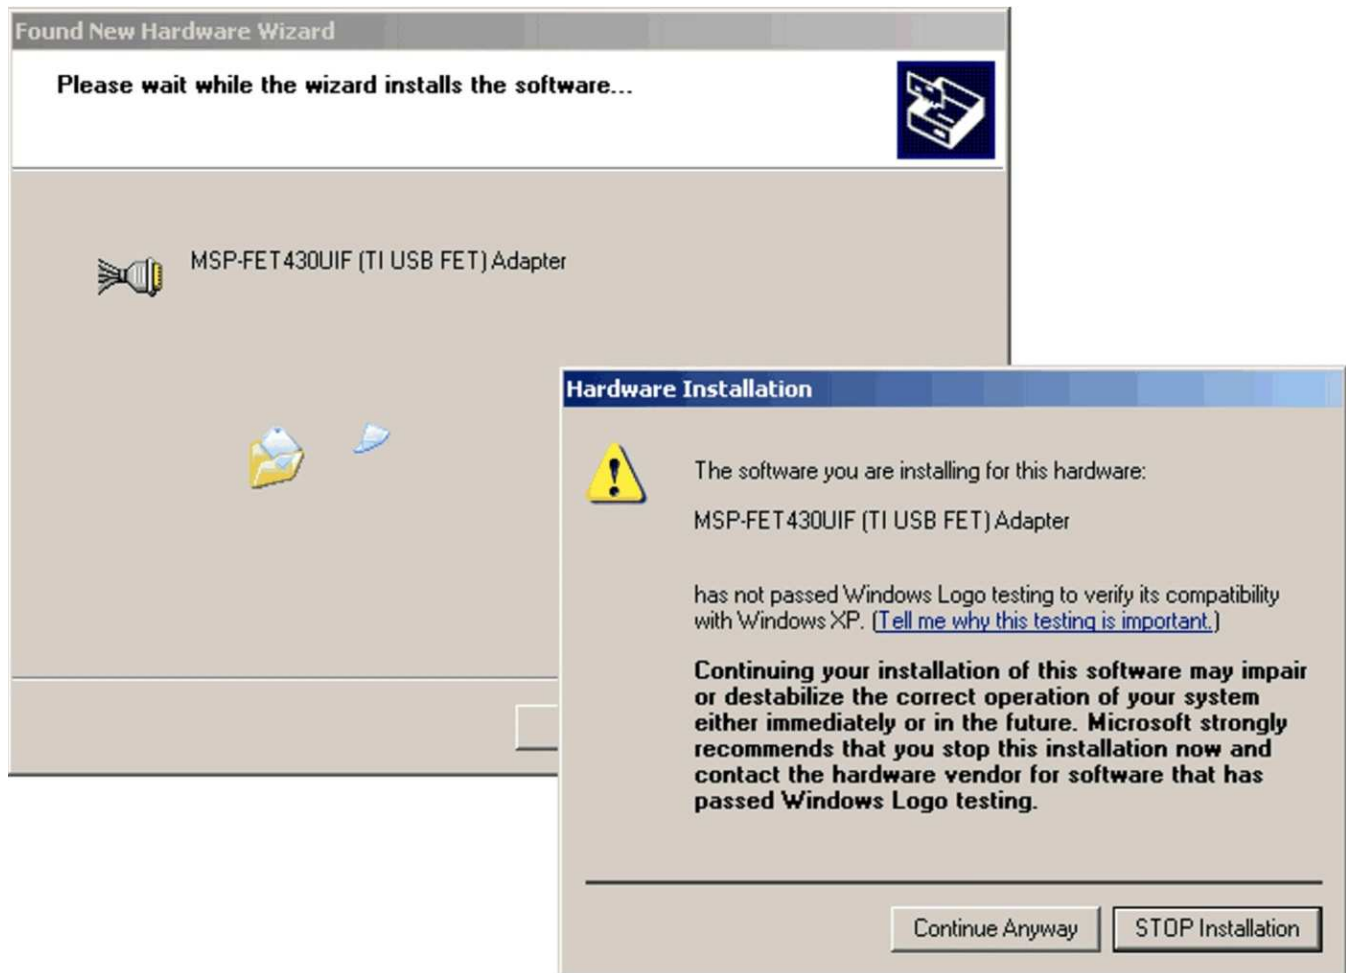

Figure C-4. Windows XP Driver Installation
8. Note that Windows may show a warning that the driver is not certified by Microsoft. Ignore this warning and click "Continue Anyway" (see Figure C-4).